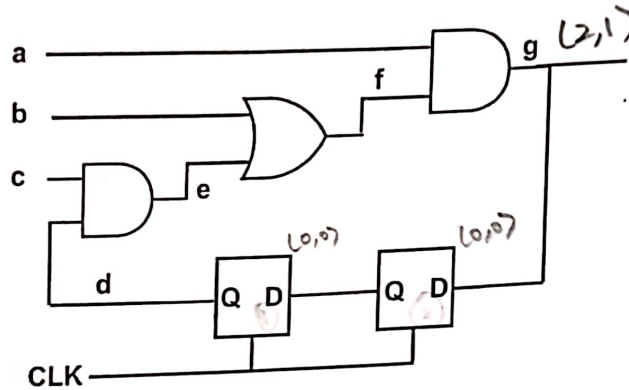

Figure 4
- Compute the combinational and sequential SCOAP testability measures (both controllability and observability) for the circuit in Figure 4. You can assume a synchronous clock and do not need to compute the observability of the clock signal.